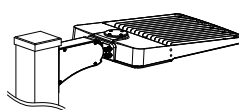

Figure 2-3
Step3: Fasten the pole cover to the pole after making sure the wires are connected correctly, Figure 2-3;